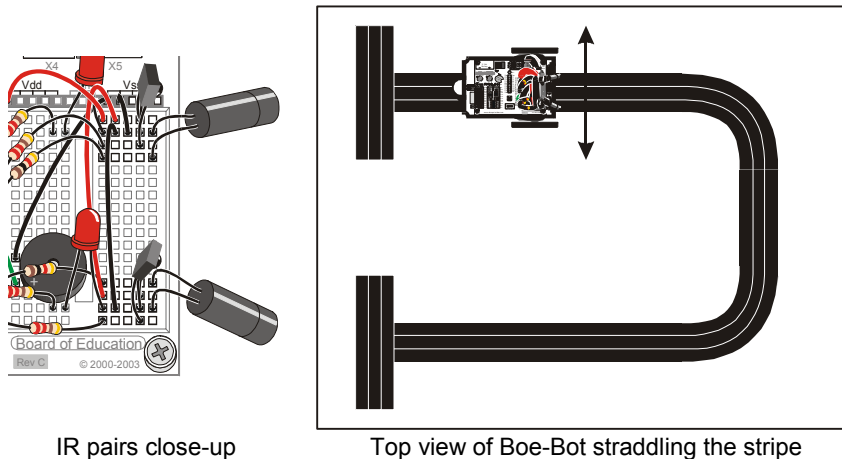

**Figure 8-12**
- ✓ Now, place the Boe-Bot on the course so that its wheels straddle the black line. The IR detectors should be facing slightly outward. See close-up in Figure 8-12. Verify that the distance reading for both IR pairs is 0 or 1 again. If the readings are higher, it means they need to be pointed slightly further outward, away from the edge of the stripe.